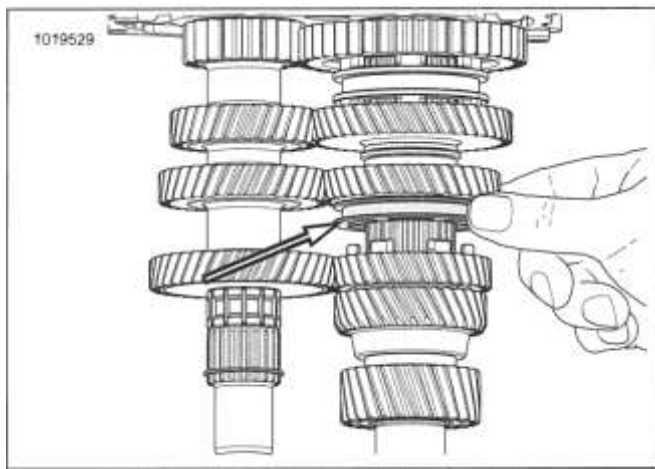

Figure 5-57. Raise and Hold Dog Ring
4. See Figure 5-57. If mainshaft is not removed, raise and hold countershaft third and fourth gear shift dog while installing countershaft.
2. See Figure 5-57. Raise and hold dog ring engaged with